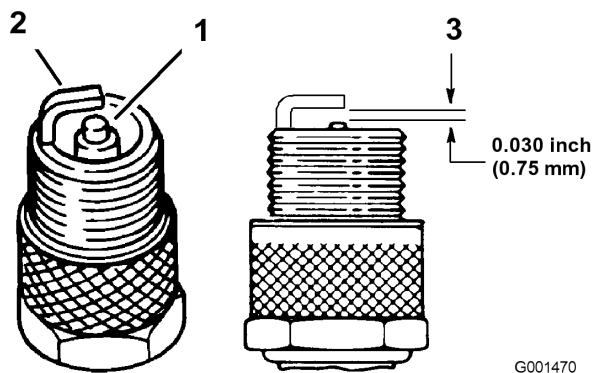

Figure 26
1. Look at the center of the spark plugs (Figure 26).
3. Check the gap between the center and side electrodes (Figure 26). Bend the side electrode (Figure 26) if the gap is not correct.
3. Connect the wires to the spark plugs (Figure 26).